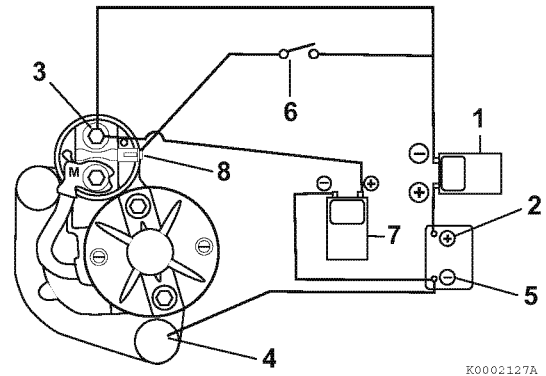

Figure 11-35
2. Connect an ammeter (1, **Figure 11-35**) in series between the battery positive (+) terminal (2, **Figure 11-35**) and the main positive (+) terminal (3, **Figure 11-35**) on the starter motor.
3. Connect a wire lead between the mounting base of the starter motor (4, **Figure 11-35**) and the battery negative terminal (5, **Figure 11-35**).
4. Connect a voltmeter (7, **Figure 11-35**) to the battery negative (-) terminal (5, **Figure 11-35**) and the main positive (+) battery terminal (3, **Figure 11-35**) on the starter motor.
5. Install a switch (6, **Figure 11-35**) in a circuit between the battery positive (+) terminal (2, **Figure 11-35**) and the starter magnetic switch (solenoid) terminal (8, **Figure 11-35**) on the starter motor.